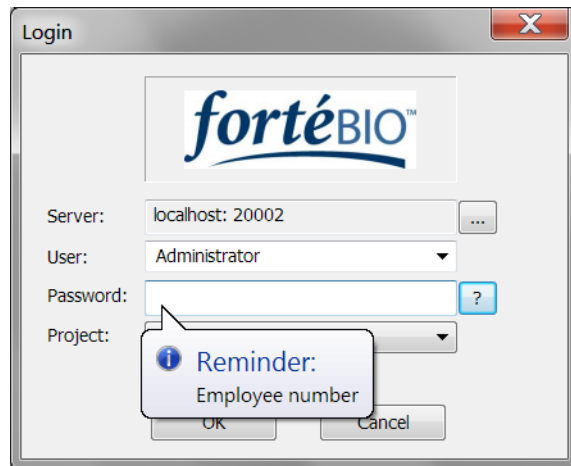

Figure B-27: Password Reminder
4. Enter your **Password**. Click ? for a password reminder (Figure B-27) if necessary.